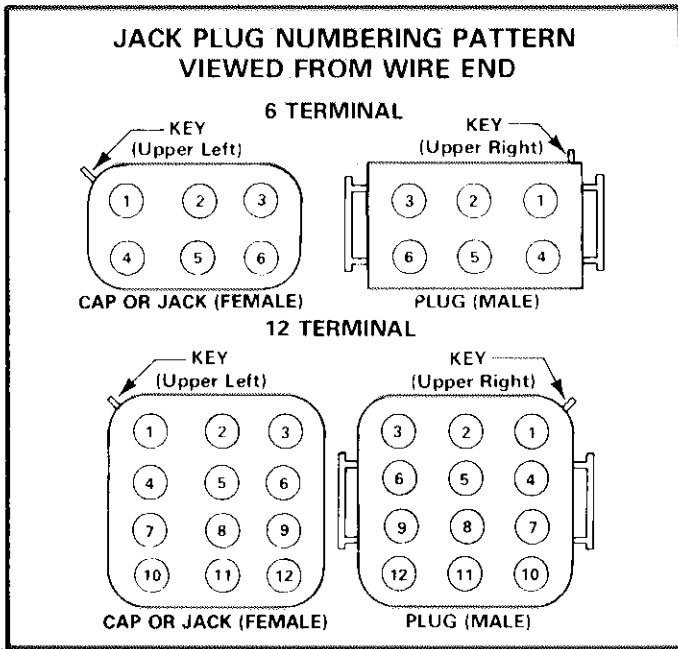

FIGURE 32
- 4 - Terminal numbers on jack plugs are located by a ridge on the corner of the plug called the "Key." Refer to Figure 32 for proper numbering sequence.